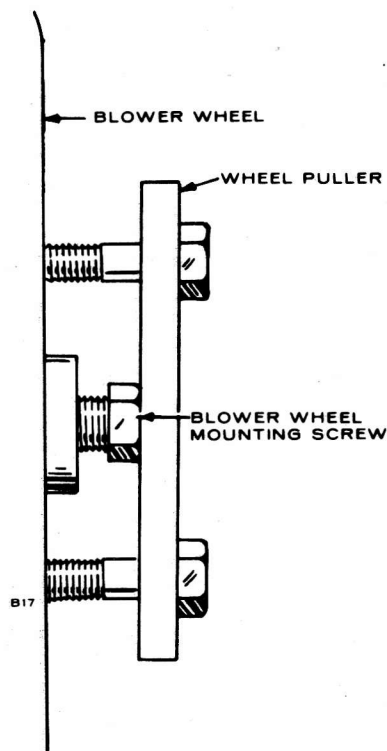

FIGURE 8. BLOWER WHEEL PULLER
2. Install a puller bar (Onan tool number 420-0100) on the flywheel as shown in Figure 8.